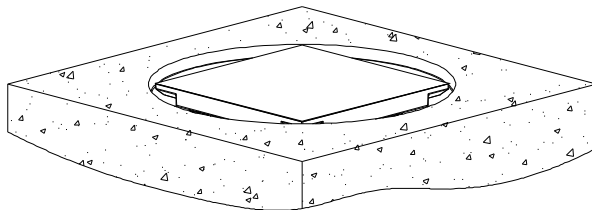

Fig. 13S
- 13. Turn head assembly clockwise until top of strainer is flush with the finish floor. See Fig. 13S